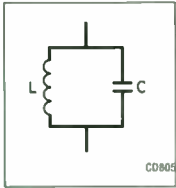
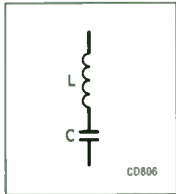
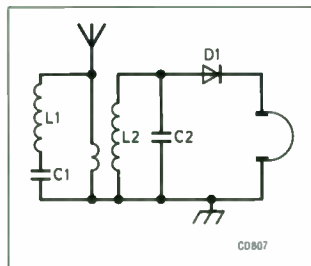
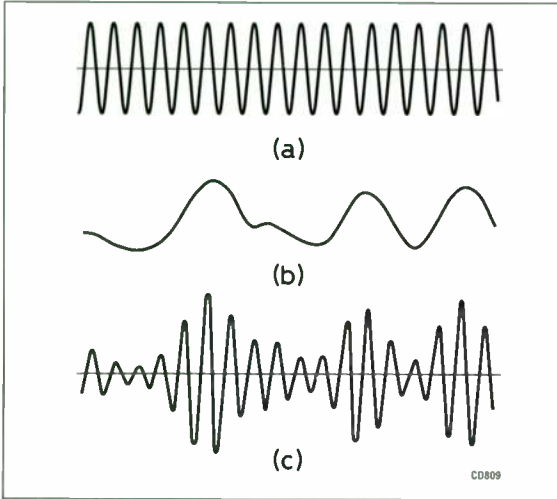

Fig 1.5. A parallel circuit
Fig 1.6. A series circuit
Fig 1.7. Frequency-selective components added to the circuit of Fig 1.4
Fig 1.9. Amplitude modulation. (a) RF carrier. (b) AF. (c) Modulated carrier
Two arrangements are used to give different characteristics. A parallel circuit as shown in Fig 1.5 offers a high impedance to current having the same frequency as that of the circuit and the series circuit shown in Fig 1.6 offers a low impedance to current at the natural (resonant) frequency. Fig 1.7 shows how these two circuits
Most of the transmitters which operate in the medium-wave and long-wave bands make use of a method of modulation known as 'amplitude modulation' (AM). In this the audio frequency (AF) signals are used to make the amplitude of the RF carrier signal rise and fall in time with the AF. This is illustrated in Fig 1.9. The resulting signal is still completely RF (there is no AF actually present) but it carries the AF component in what is referred to as the 'envelope'. When this type of signal is received it is the job of the demodulator to 'extract' the AF from the composite carrier. More details of how this is done later but it is important to note that it is the diode D1 which carries out this task in the simple receiver shown in Fig 1.7.
The last part of the circuit to be examined is the demodulator. First it must be emphasised that this type of receiver is only suitable for the reception of amplitude modulation. Reference to Fig 1.9 in Chapter 1 will show that although the signal contains a suggestion of the audio